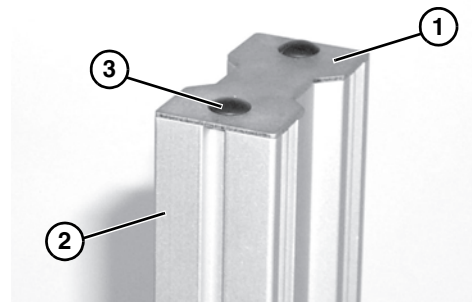

**Figure 10**
**Failure to secure screws (Figure 10, item 1 and 2) may cause conveyor section(s) to drop down causing severe injury.**
**TIGHTEN SCREWS (Figure 10, item 1 and 2) AFTER ADJUSTMENT.**
15. Tighten four flange socket head screws (**Figure 10, item 1**) to 24 ft-lb (33 N-m).
16. Tighten four button head screws (**Figure 10, item 2**) to 17 ft-lb (22.5 N-m).